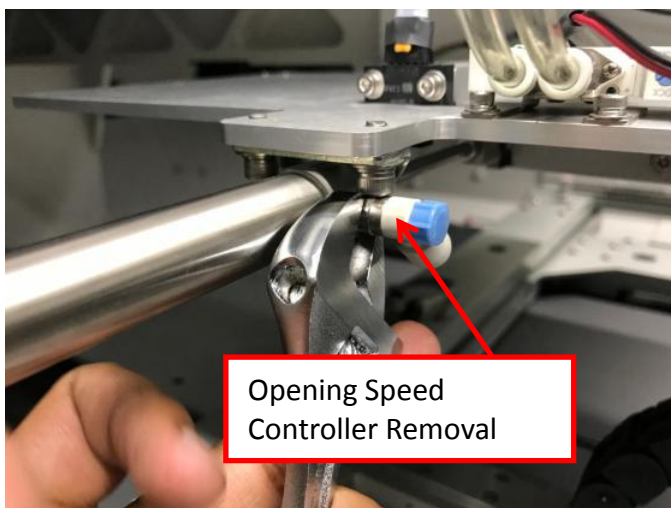

Figure 2 Opening Speed Controller Removal
3. Remove 2 x Speed Controller by using adjustable spanner as shown in Figure 2 & 3